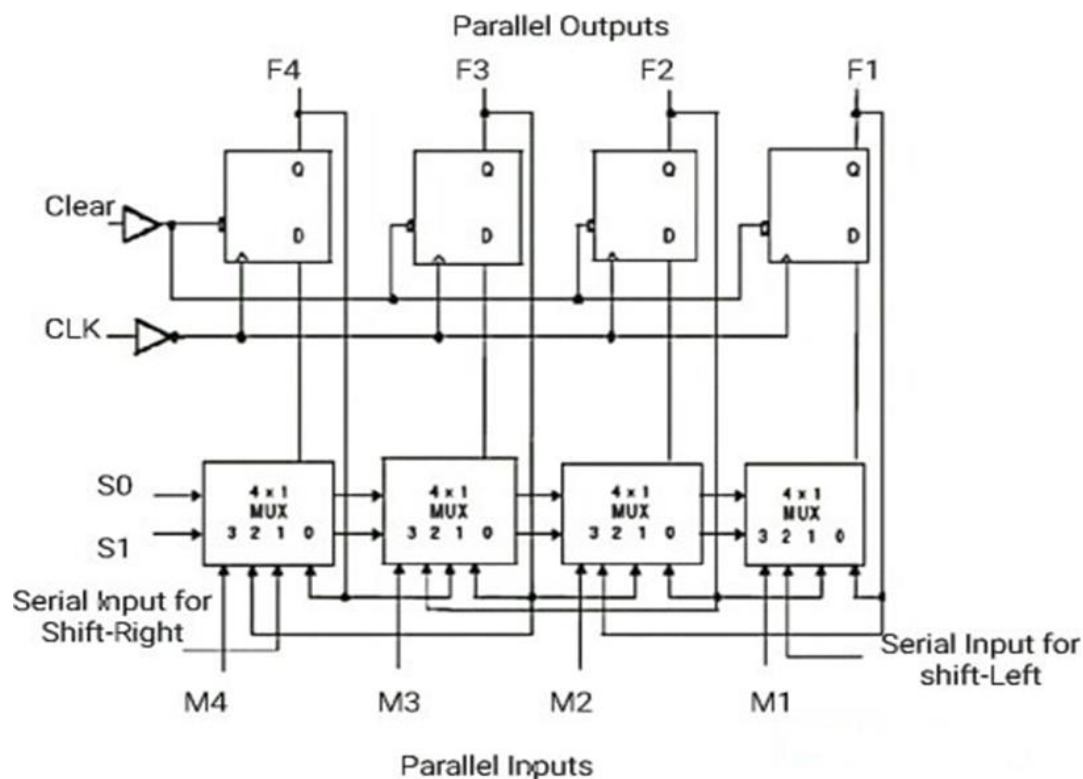

Figure:1 Universal shift register
- From the figure 1, selected pins decides the mode of operation of the universal shift register. Serial input shifts the data towards the right and left and stores the data within the register.